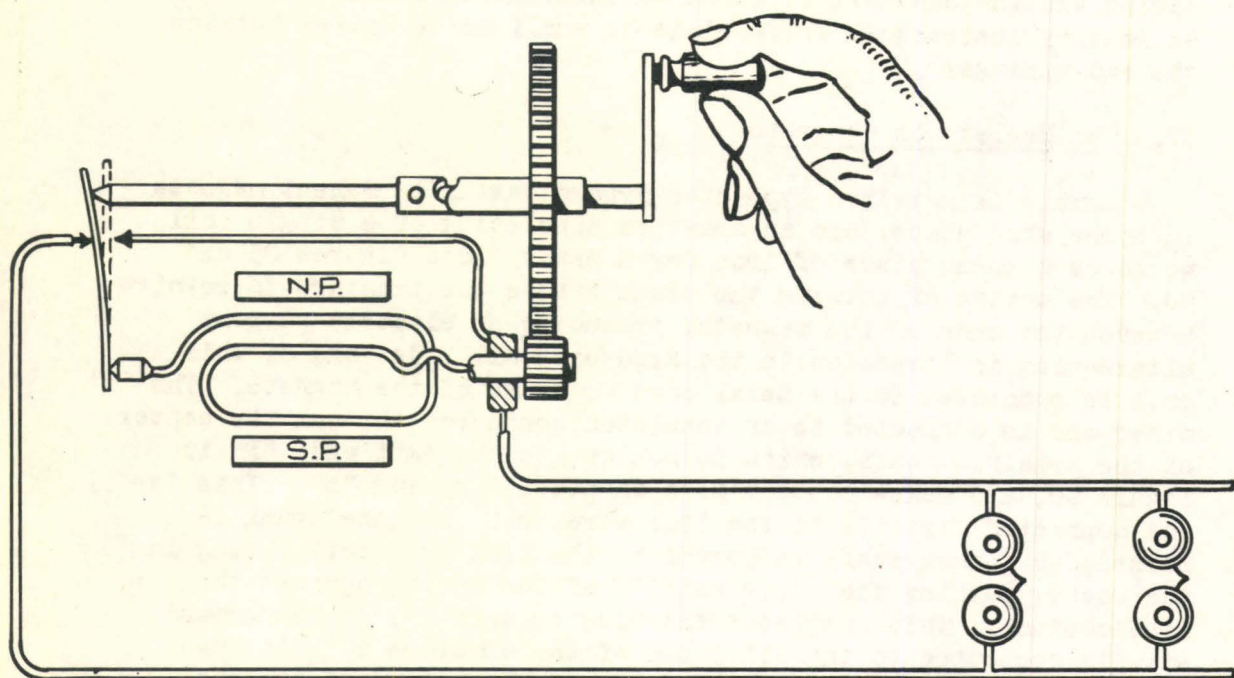
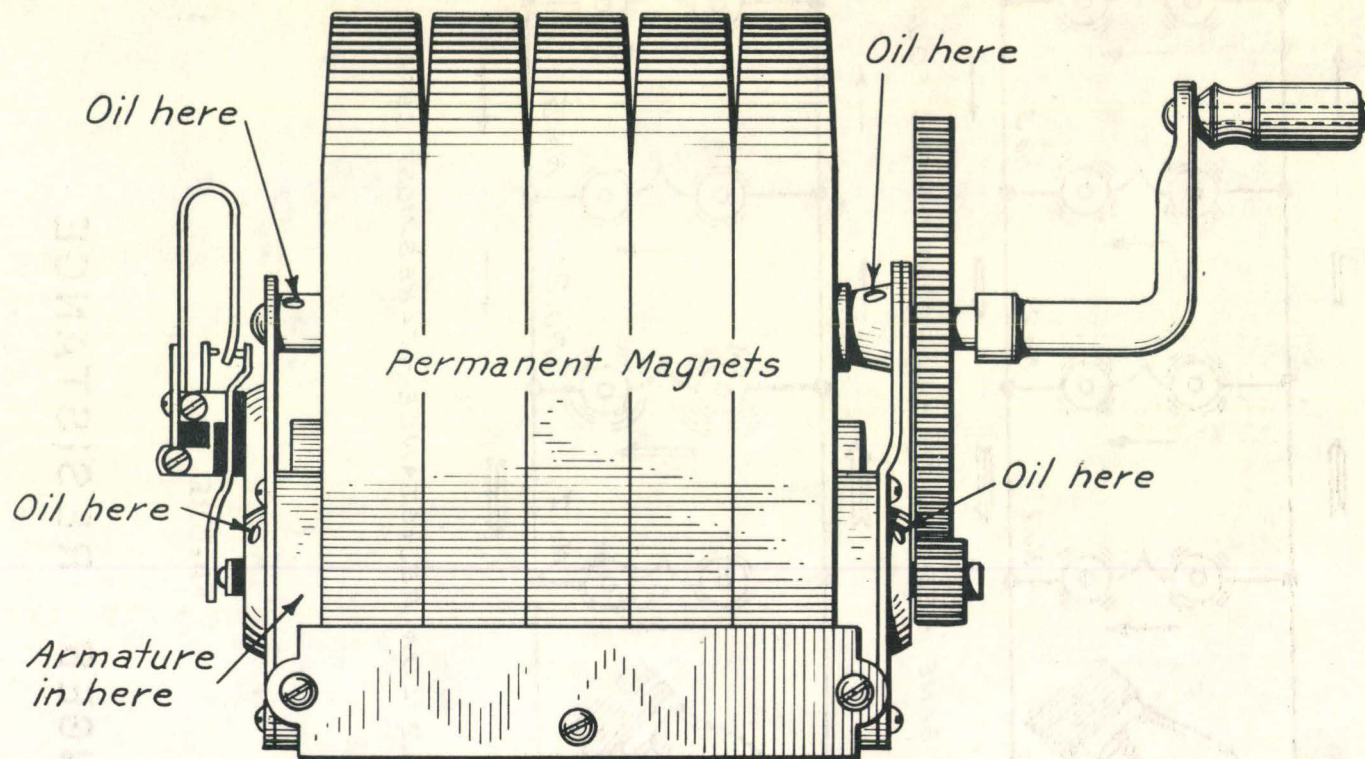

FIGURE 85
FIGURE 90
2. The magneto circuit, figure 85, includes the magneto or generator.
This is merely a type of a dynamo having permanent magnets in horse shoe shape, and an armature consisting of a single coil wound on a round piece of iron for a shaft. See figures 85 and 90. The action of turning the crank causes the armature to revolve between the ends of the magnets, producing an electric current alternating in direction in the armature coil. One end of this coil is connected to the metal part or frame of the magneto. The other end is connected to an insulated conductor through the center of the armature shaft, which is hollow, to the left end, "F" in figure 90, and makes contact with an outside spring "E". This is not connected directly to the line wire, but when the crank is turned, the crank shaft is forced to the left by a coil spring in the shaft, pushing the upper end "C" of the spring against the line contact. This completes the ringing circuit, as the ground wire is connected to the other end of the armature coil through the frame. The sliding action of the crank shaft connects the armature coil to the line when the crank is turned and breaks the connection when the turning motion is stopped, thus keeping the generator disconnected from the line when it is not in use. This is necessary because the resistance of the armature coil is low enough to cause a ground on the line if it is left connected at all times. In the Kellogg telephone, figure 83, the action of the magneto spring contacts is as just described for the Graybar telephone, except that the ringer connection which is made between contacts "A" and "B" is broken when the generator crank is turned, as the action of turning the crank causes the crank shaft to slide forward to the left.
the generator is operating and is probably all right. If there is no stinging sensation or shock felt, there is trouble in the wiring in the telephone or in the generator. To test the wiring in the telephone, remove the generator wires from terminals "x" and "y" figure 90, for Graybar magneto, or "a" and "b", figure 83, detail of generator assembly, for other telephones. Put the fingers on these terminals and turn the crank. If a stinging sensation is felt, the trouble is in the wiring in the telephone; if not, it is in the magneto and it will be found open or short circuited. If the crank turns hard, the trouble in all probability is a short circuit in the rubber bushings separating the spring contacts. This is usually caused by lightning but may be caused by too much oil. In either case, there will probably be an odor of burning rubber. In order to be sure that this is the trouble, it will be necessary to take the generator out of the telephone and remove the entire spring contact assembly by taking out the two end screws. Do this carefully, for if the trouble is not here, the springs and insulating strips must be put back exactly as they were. Then turn the crank and if it still turns hard, the trouble is in the armature. It may be either a "short", in which event a new armature should be secured, or mechanical trouble at the bearings, which usually can be corrected with a few drops of typewriter oil. If the crank turns easily, the trouble is in the spring contact assembly. It is advisable to have an extra complete magneto spring contact assembly on hand. If a new assembly cannot be secured, it may be possible to make temporary repairs on the job by taking the old assembly apart, locating the defective insulating strip and then scraping off the carbonization carefully. A thin piece of cardboard may be substituted for the defective strip in an emergency. Replace the parts, being sure to wipe each piece clean and put them back exactly as they were.